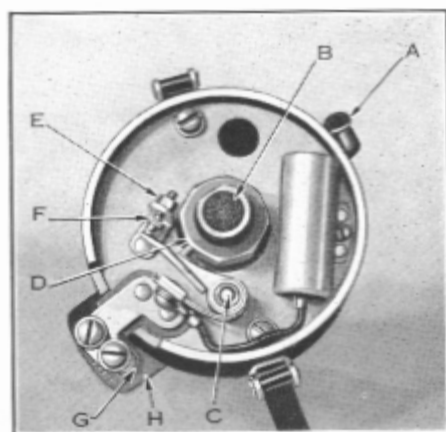
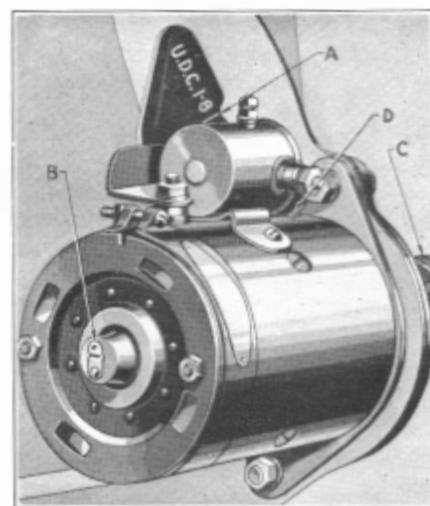

Figure 5
Figure 6
The oil cup (A), Figure 5, should be filled with oil every 2,000 miles. At the same time remove the distributor cap (not shown) and rotor arm, placing a few drops of oil on the wick (B) in the top of the shaft, one drop of oil on the breaker arm pivot (C), and apply a light coating of vaseline on the cam block (D).
To determine this, remove the spark plug from number one (front) cylinder. Place the finger over the spark plug hole and crank the engine slowly, using the hand crank. Air pressure against the finger indicates that the piston is coming up on the compression stroke. After this is felt, continue cranking the engine slowly until the mark "U. D. C. 1 and 8" is directly in line with the pointer on timing inspection hole in the rear support plate of the motor as indicated at (A), Figure 6. The piston is then at U. D. C. and ready to move downward on the power stroke.
Loosen distributor clamp screw (G), Figure 5, and turn the distributor housing clockwise to the limit of the slot in the clamping plate (H), Figure 5. Remove the central cable from the distributor cap and place the bare end about $\frac{1}{8}$ " from the intake manifold. With the ignition turned on and the U.D.C. 1-8 mark on the flywheel in line with the pointer on the inspection hole, Figure 6, turn the distributor body counterclockwise slowly just until a spark jumps from the high tension wire to the intake manifold. Tighten clamp screw (G), Figure 5, replace central cable in distributor cap and clamp cap on distributor.
The foregoing operations give dead center timing. This, however, due to variations in fuel characteristics (octane rating), is only approximately correct. To get the correct setting the car should be driven until the engine has reached its normal operating temperature. Allow the car to slow down to 7 miles per hour in high gear on a level, hard-surfaced road, then depress the accelerator rapidly to its limit of travel. As the car accelerates from 10 to 15 miles per hour a slight spark knock should develop. If a knock is not heard, loosen distributor clamp screw (G), Figure 5, and turn the distributor counterclockwise one graduation of the clamping plate (H), Figure 5, and repeat the acceleration test. Repeat this operation until the knock is heard. The higher the octane rating of the gasoline being used, the greater the advance required to get maximum performance and fuel economy. However, the timing should not be set more than $\frac{3}{4}$ " ahead of the upper dead center mark on the flywheel.
The front and rear bearings of the starting motor should be lubricated at (B and D), Figure 6, with a few drops of light oil every 1,000 miles.
The threads of the Bendix screw shaft (C), Figure 6, should be cleaned occasionally with a brush and kerosene to remove gum and dirt.